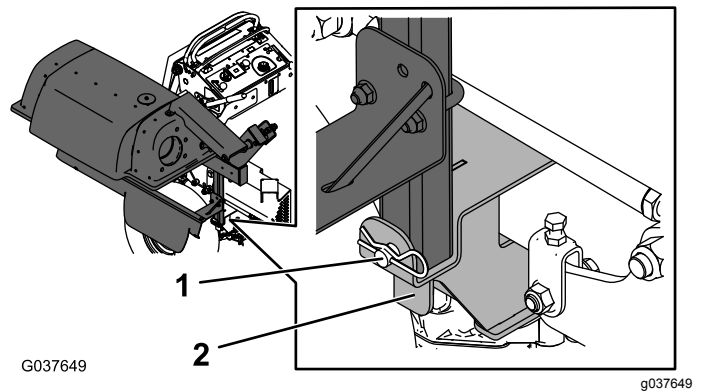

Figure 15
3. Secure the bottom, front side of the bagger frame to the transmission mount bracket using a clevis pin and hairpin cotter (Figure 15).